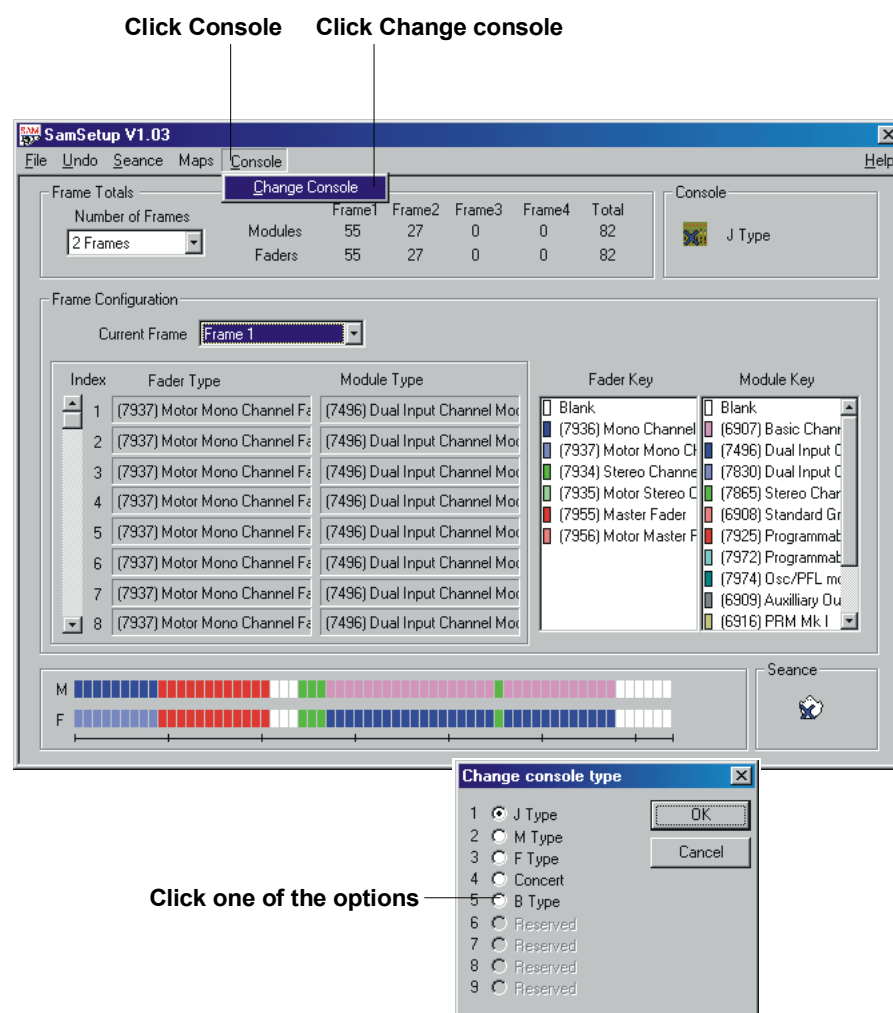

FIG 2-1. The SAM Setup window
After you have installed the Sound Automation Manager, it will appear as a new section in the program folder of the Windows® Start menu. One of the entries in this section is Sam Configuration. Click on this menu entry to run SamSetup. The Setup window opens, see fig 2-1.
- In the Setup window, fig 2-1, click on Console in the menu bar.